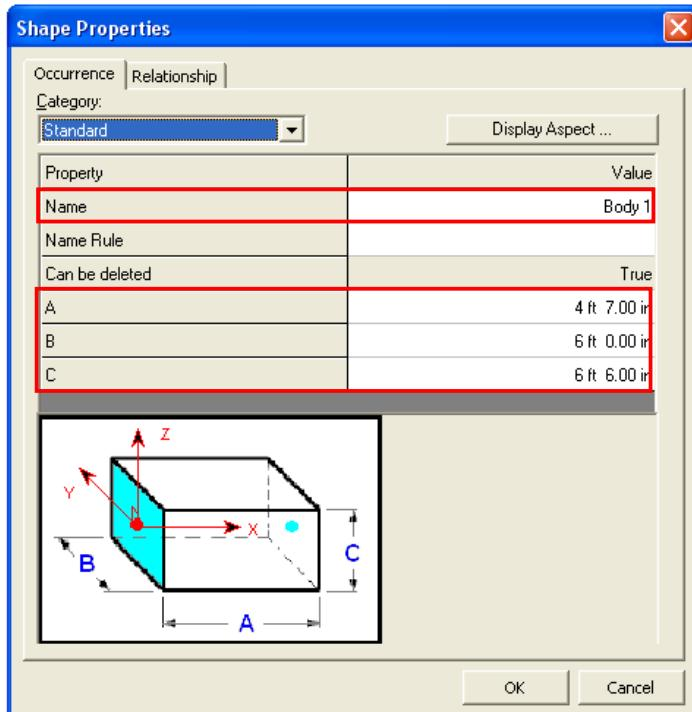

Figure 46: The Shape Properties Dialog Box
14. The **Shape Properties** dialog box opens. Change the **Name** of the shape to **Body-1** and key in the values: **4 ft 7 in** for **A**, **6 ft** for **B** and **6 ft 6 in** for **C**, as shown in Figure 46.